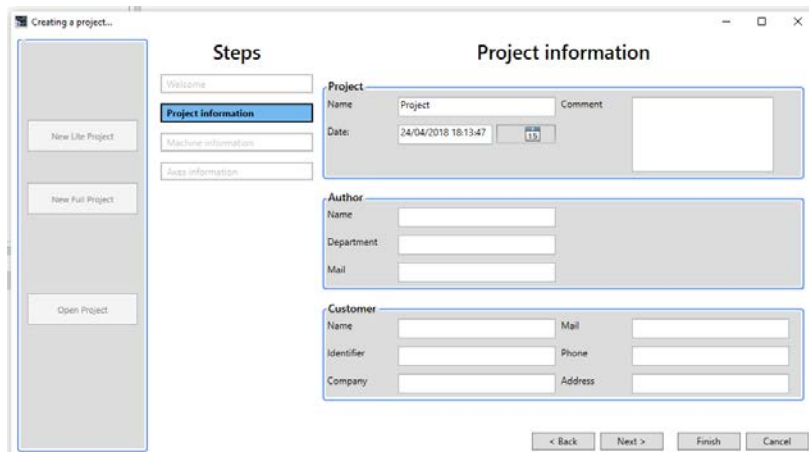

Fig. 7 Project information Window
- **Project information Step**: request of project, author and customer information. The project name must be specified, but even if the other information is not set, it will not affect the operation of the application. See Fig. 7.